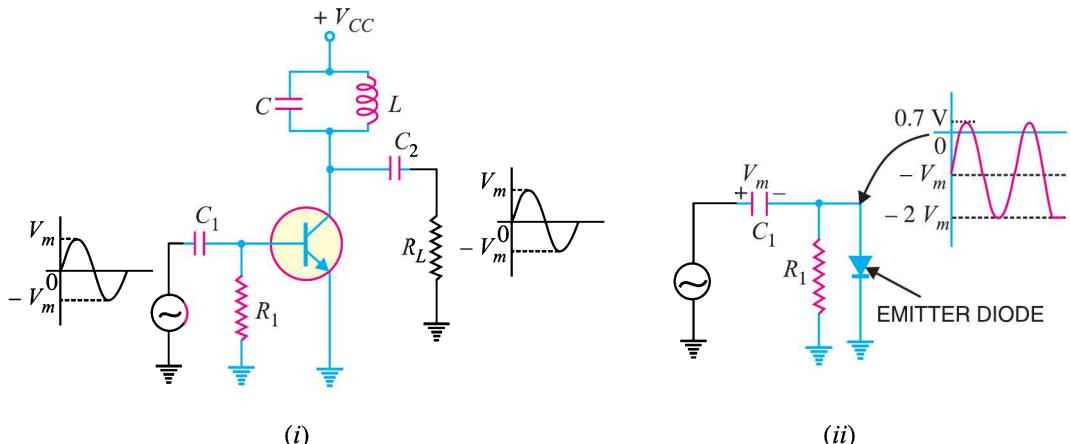

Fig. 15.18
- (ii) When an a.c. signal is applied, *clamping action* takes place as shown in Fig. 15.18 (ii). The voltage across the emitter diode varies between $+0.7\text{ V}$ (during positive peaks of input signal) to about $-2V_m$ (during negative peaks of input signal). This means that conduction of the transistor occurs only for a short period during positive peaks of the signal. This results in the pulsed output *i.e.* collector current waveform is a train of narrow pulses (Refer back to Fig. 15.17).